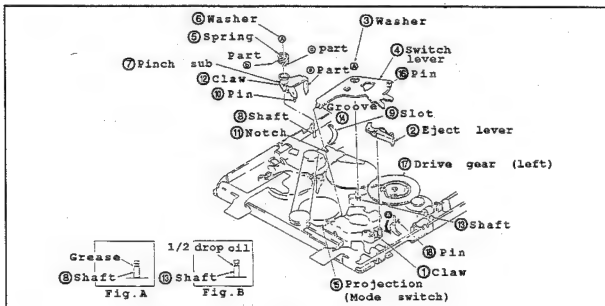

Fig.II-20
• Disassembling (Fig.II-20)
- (1) Set unloading state.
- (2) In the same procedures in "3-3", dismount the capstan motor.
- (3) To dismount the eject lever ②, unhook the claw ①.
- (4) To detach the switch lever ④, remove the washer ③.
- (5) Remove the spring ⑤.
- (6) To detach the pinch sub arm ⑦, remove the washer ⑥.
• Reassembling (Fig.II-20)
- (1) Apply the grease onto the shaft ⑧. (Fig.A)
- (2) Assemble the pinch sub arm ⑦ while inserting the ③ part into the slot ⑨.
- (3) Secure it with the washer ⑥.
- (4) Hook the ⑥ part of spring ⑤ between the claw ⑫ and the chassis side while hooking ⑥ part to the claw ⑫.
- (5) Apply 1/2 drop of oil to the shaft ⑩. (Fig.B)
- (6) Assemble the switch lever ④ to the shaft ⑩ while aligning the groove ⑪ with the projection ⑤ of mode switch. At this time, insert the pin ⑬ to the outside groove ⑭ of drive gear (left) ⑦.
- (7) Secure it with a washer ③.
- (8) Attach the eject lever ② and hook the claw ①.
- (9) In the same procedures in "3-3", mount the capstan motor.
*Note: When installing the switch lever ④ to the shaft ⑩, set the pin ⑬ of tension regulator arm to the inside of switch lever ④. (within the extent of ① indicated by an arrow.)